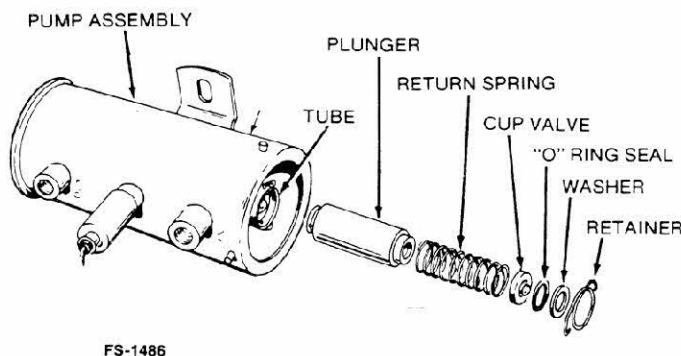

FIGURE 9a. REMOVAL OF PLUNGER ASSEMBLY
3. Using a thin nose pliers, remove the retainer spring from the plunger tube. Remove the washer, O-ring seal, cup valve, plunger spring and plunger from tube (Figure 9a).